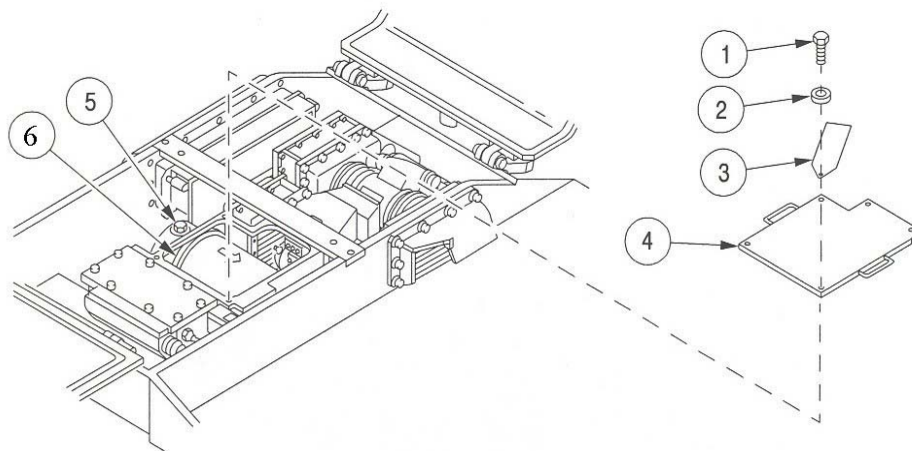

Figure D-1.
1. Open MCS access door (see figure D-1).
2. Remove five screws (1), five flat washers (2), tag (3), if installed, and filter access cover (4).
3. Set retractable filter inlet support (5) to unlocked position.
4. Carefully lift up M48/M48A1 filter (6) and place in plastic bag, seal bag with zip tie, and label bag.